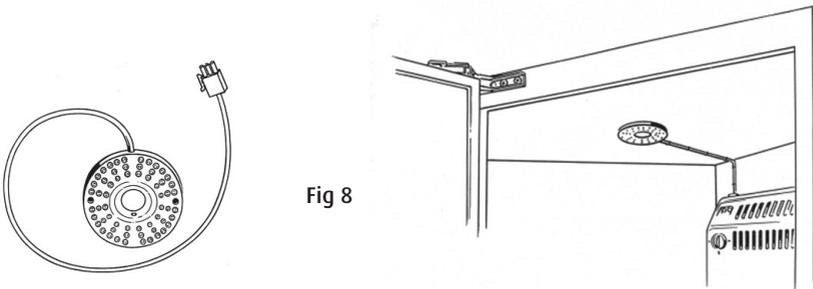

Fig 8
9. Screw the LED lamp securely to the ceiling approx 25 cm in from the door frame. Remove the protective tape from the cable trunking and press it firmly onto the ceiling as far as the female connector on the unit. Press the cable into the trunking and push in the plug. (Fig 8)